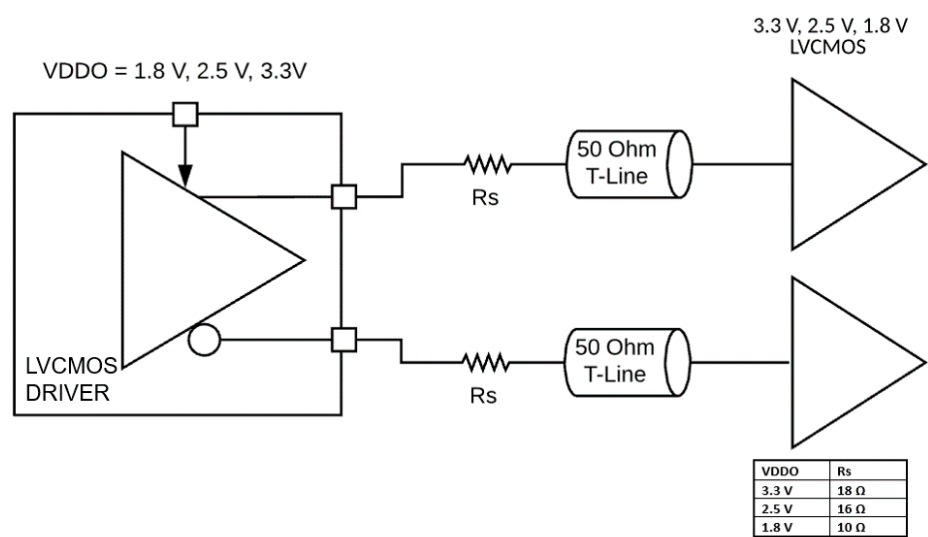

Figure 32. LVC MOS output Termination
A Low Wander Mode (LWM) is the mode that combines the best jitter from TCXO/OCXO MEMS resonator clocks. This dual loop PLL configuration leverages the lower TCXO/OCXO close-in phase noise (PN) with the lower further out PN of the embedded MEMS resonator. The LWM implementation is shown in Figure 32, in which PLLA generates a low wander reference for the rest of the PLLs. Any or all PLLs B, C, D can operate in LWM. Wander on the input clocks to any of the 3 PLLs is attenuated with PLL bandwidth (BW) set to less than 10 Hz.